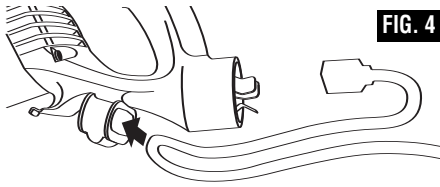

FIG. 4
1. Loop cord as shown in figure 4.